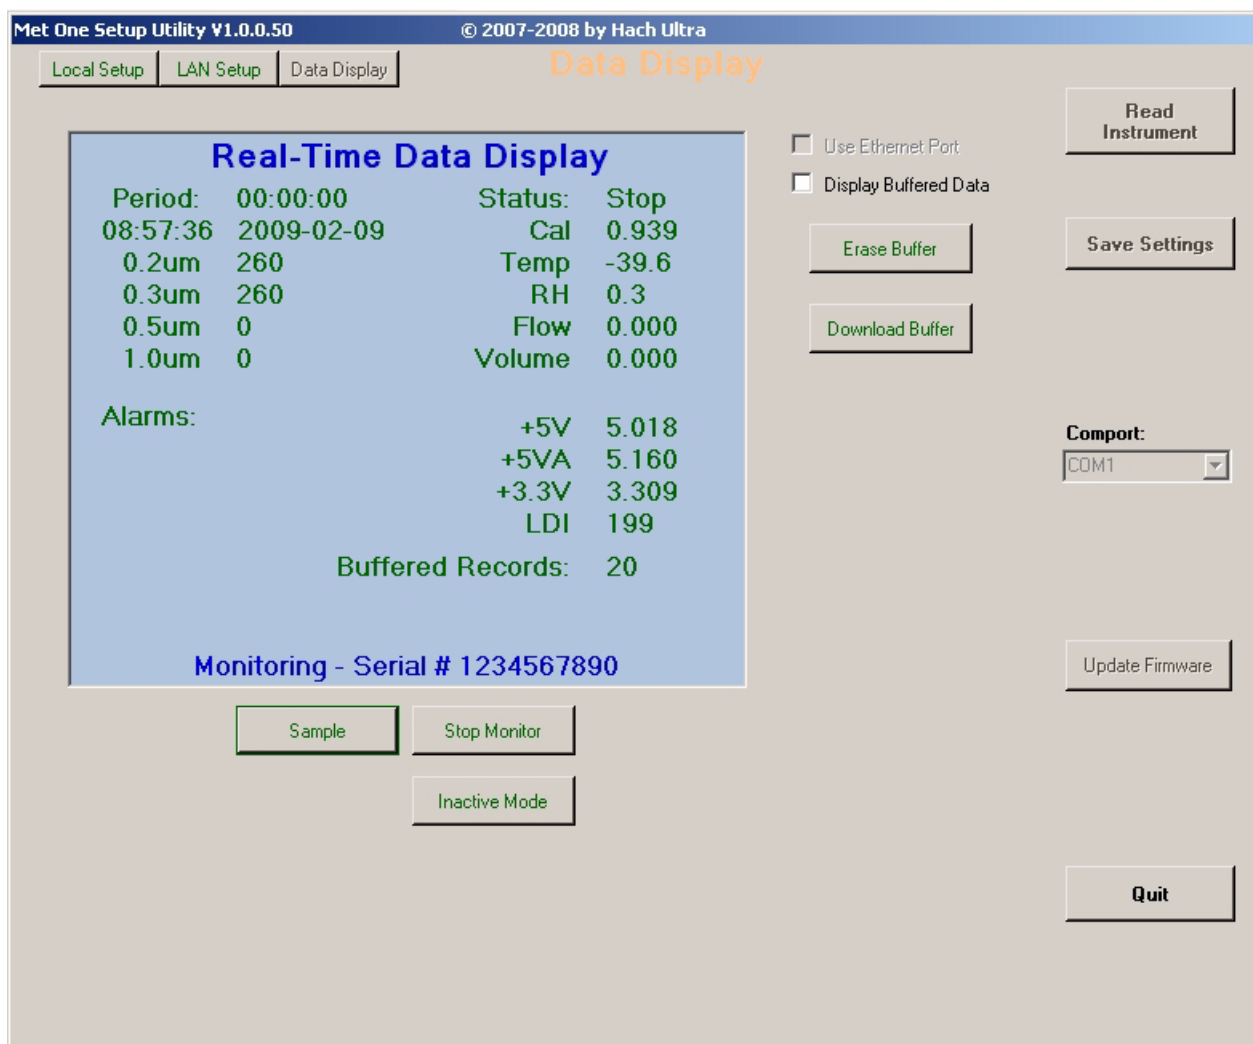

Figure 19 Setup Utility, Data Display tab—analogue unit
5. Go to the **Data Display** tab of the Setup Utility (Figure 19). Click the **MONITOR** button, or if the Status field in the Real-Time Data Display section shows **Stop**, click **SAMPLE**.